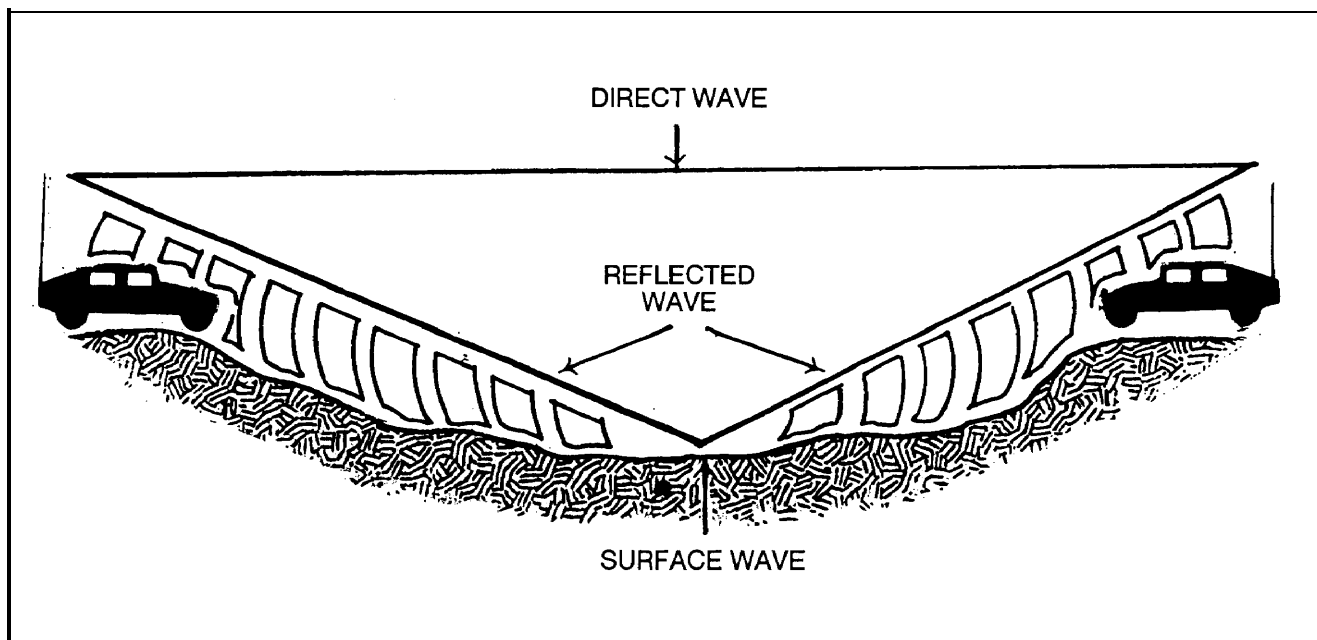

Figure D-2. Components of ground wave.
a. **Ground-Wave Propagation.** Ground-wave propagation involves the transmission of a radio signal along or near the surface of the earth. The ground-wave signal is divided into three parts: the **direct wave**, the **reflected wave**, and the **surface wave** (Figure D-2).